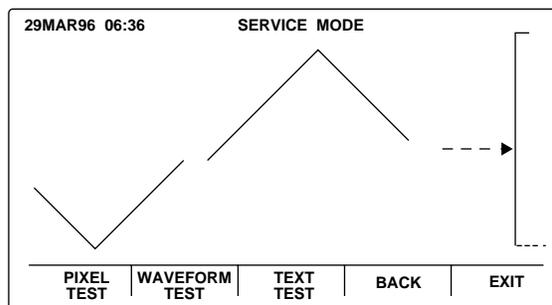

Figure 3-5: Waveform Test Display
- Press softkey #2, "WAVEFORM TEST" and verify that a waveform similar to the one illustrated in Figure 3-5 is displayed. A wiper bar with a sweep speed of 25 mm/sec is displayed.